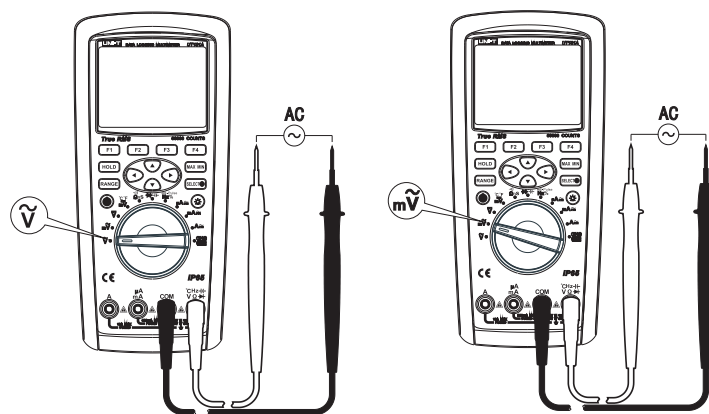

Figure 5
- 2) Set the rotary switch to  $\tilde{V}$  or  $m\tilde{V}$  as shown in Figure 5.